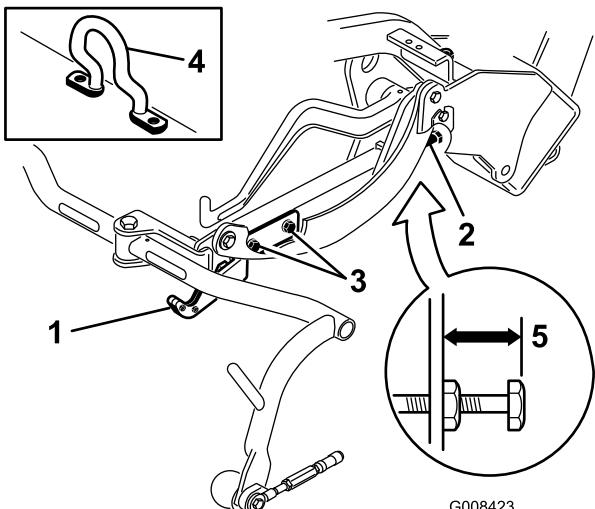
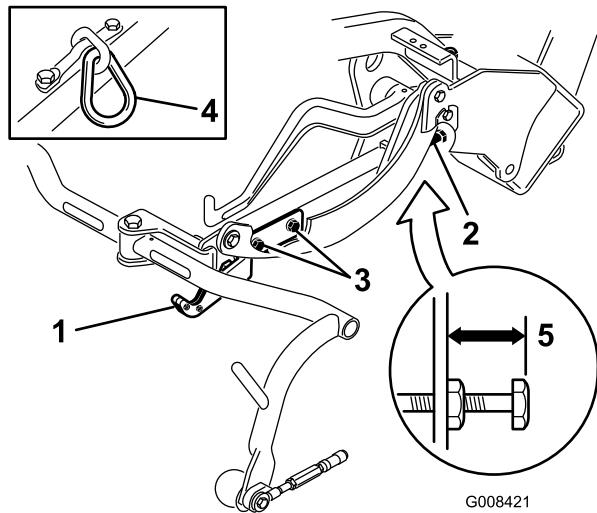
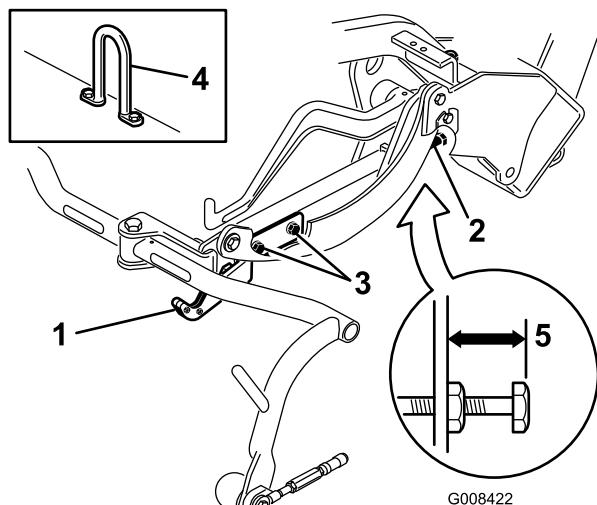

Figure 12
Figure 13
Figure 14
Check the transport height (Figure 13 and Figure 14) and adjust it, if required.
2. On cutting units equipped with a offset lift hook (Figure 12, inset) verify that the distance from the top of the carrier frame adjusting screw to the back of the carrier frame is 25 mm (1 inch). If the distance is not 25 mm (1 inch), proceed to step 4.
3. On cutting units equipped with a chain link or a straight lift hook (Figure 13 and Figure 14, insets) verify that the distance from the top of the carrier frame adjusting screw to the back of the carrier frame is 22 mm (7/8 inch). If the distance is not 22 mm (7/8 inch), proceed to step 4. If the cutting unit is equipped with an offset lift link (Figure 12), proceed to the next step.
4. Loosen the transport plate mounting screws (Figure 13, Figure 14 and Figure 12).
(Figure 12, Figure 13, and Figure 14). Rotate the screw outward to raise and inward to lower. Tighten the jam nut after the proper height is obtained.